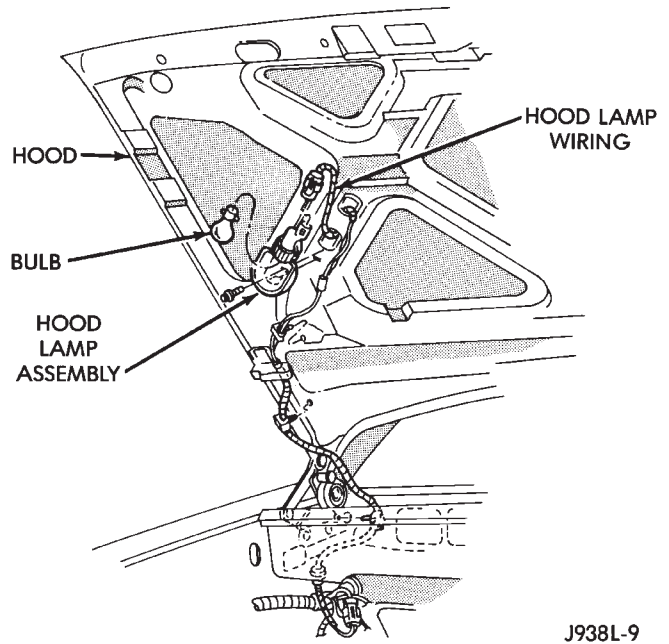
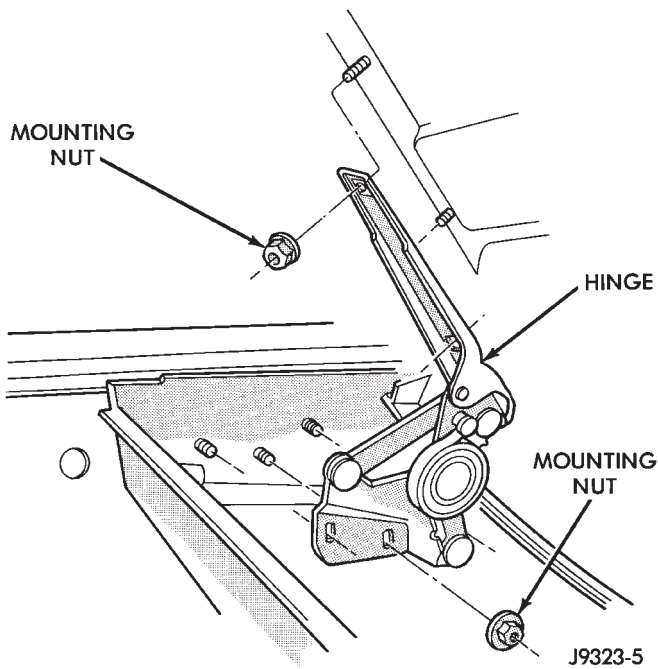

Fig. 10 Underhood Lamp
Fig. 11 Hood Hinge
- (1) Raise hood.
- (2) Disconnect underhood lamp wire harness connector (Fig. 10), if equipped.
- (3) Mark location of the hood hinges and hinge shims (Fig. 11) for installation alignment.
- (4) Remove nuts that attach hinges to hood. Remove hood from vehicle with aid of a helper.
- (2) Align hinges and shims (Fig. 11) with installation reference marks. Tighten hinge nuts to 23 N•m (17 ft-lbs) torque.
- (3) Test latch release cable and latches for proper operation.
- (4) Connect underhood lamp wire harness connector (Fig. 10).
- (5) Inspect hood for proper alignment and adjust as necessary.
- (1) Remove hood from vehicle.
- (2) Remove hinge retaining nuts from studs (Fig. 11).
- (3) Remove hinge from inner cowl side panel.
- (1) Position hinge over studs (Fig. 11).
- (2) Install hinge retaining nuts on studs. Tighten retaining nuts to 23 N•m (17 ft-lbs) torque.
- (3) Install hood.
- (4) Adjust hood as necessary. If necessary, refer to adjustment procedure.